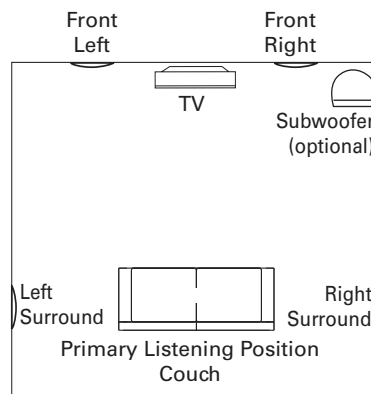

Figure 7: Surround Channels (5.1-Channel System)
- When used as part of a 5.1-channel music or home theater system, the surround speakers should be placed slightly behind the primary listening position. Refer to Figure 7.